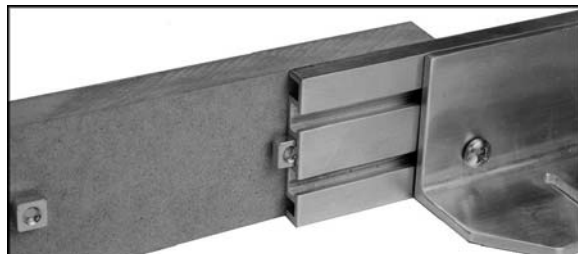

Figure 10
5. Install the 1/4-20 x 1 flat head screws and square nuts into the holes in the MDF Subfences, leaving clearance under the nuts. Mount the Subfence by sliding the nuts into the T-Slot of the fence extension (Fig. 10).